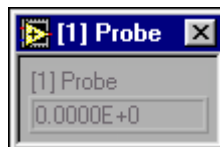

Figure 2.37
- (a)  Use the Probe tool, shown pg 51, to click any wire. A window similar to Figure 2.37 appears.